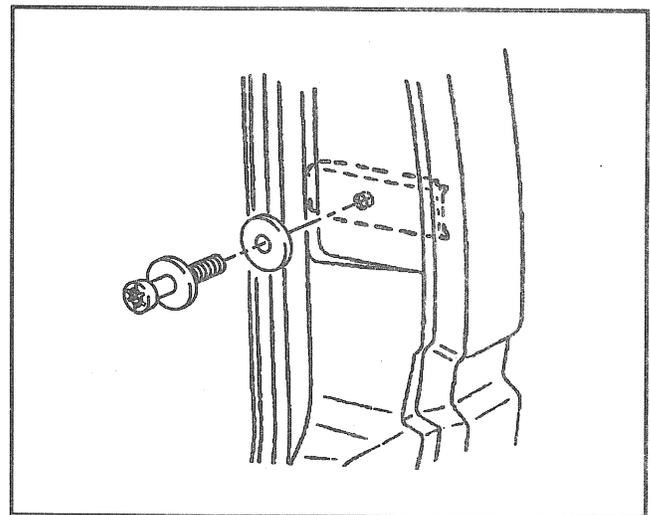

Figure 21—Door Striker
**Remove or Disconnect (Figure 21)**
**Install or Connect (Figure 21)**
- Door striker bolt using J 29843-9 or equivalent (Figure 21).
**Adjust (Figures 21 and 22)**